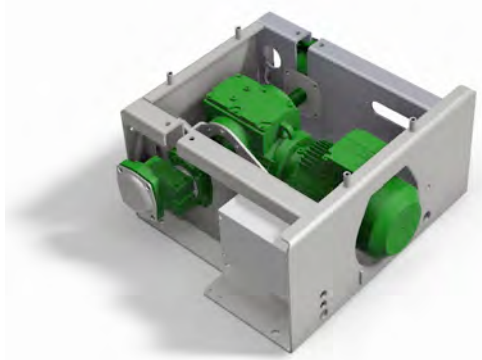

Figure 1, Drive unit
1. Motor including gearbox, bearings and eccentric assembly (Figure 1).